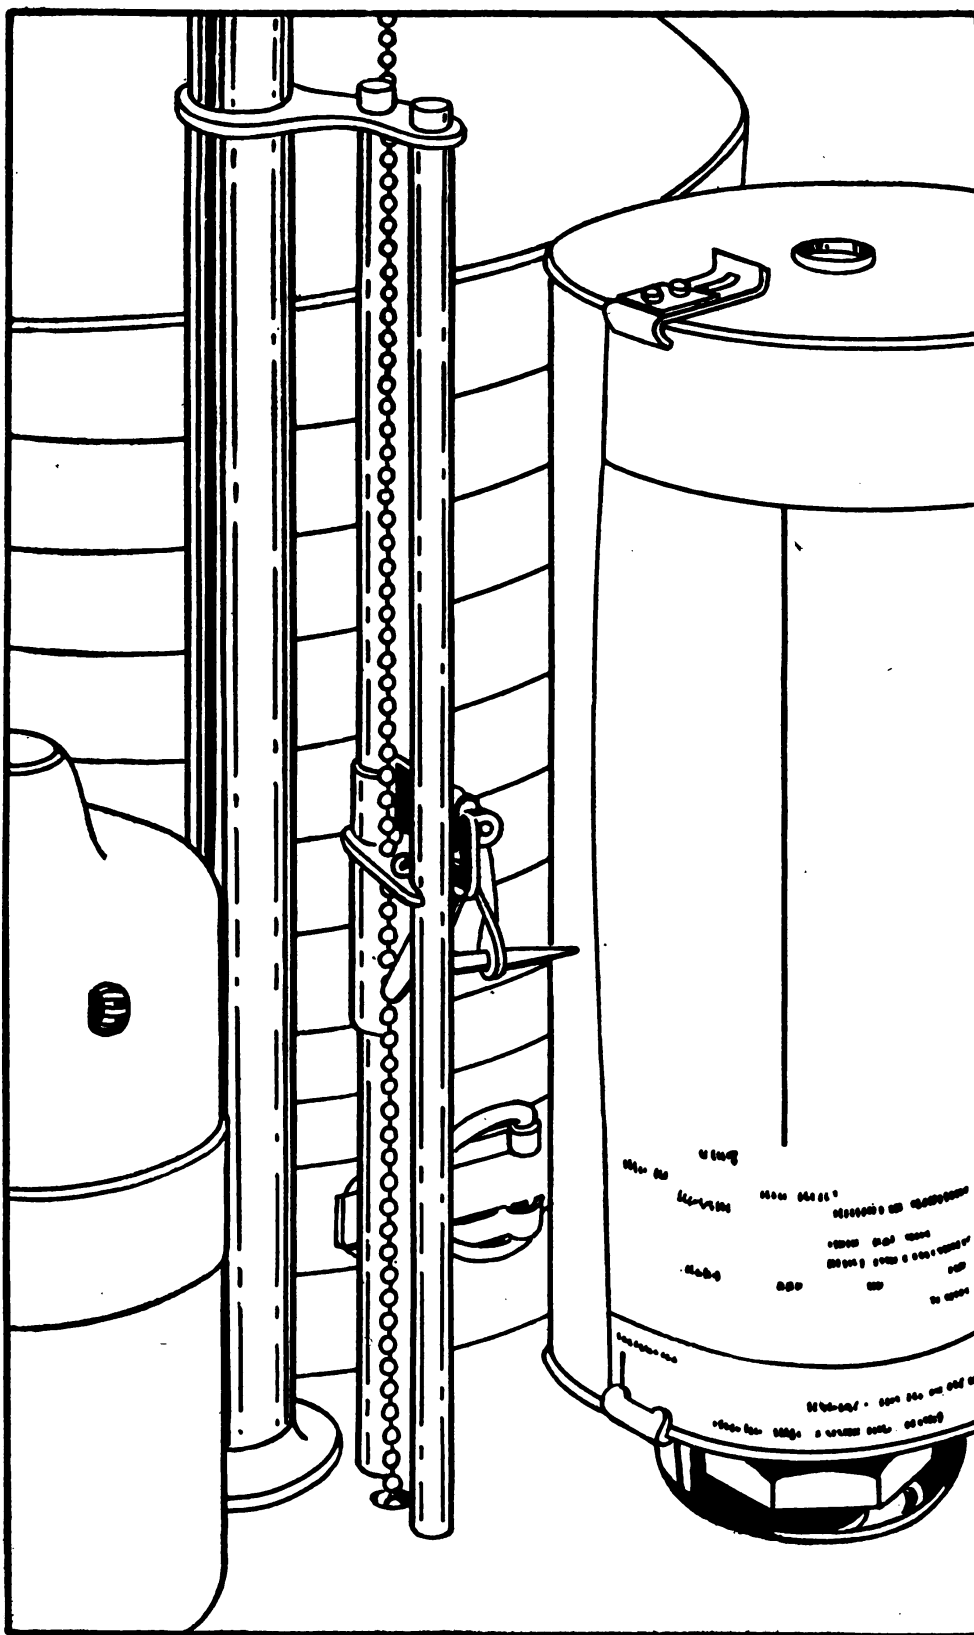

Figure 8. Position of pen for beginning test.
a. Place a fresh chart on the cylinder. (1) Lift chart cylinder from its spindle.
(2) Slide out chart-holding clips.
(3) While holding cylinder *upside down*, wrap a chart around it, right side up.
(4) Slide right edge, marked "this edge underneath," under the clips, bring left edge around and overlapping right edge; adjust chart to fit snugly on the cylinder and close the clips to hold it.
(5) Slide cylinder down on the spindle, pushing it firmly over the ball friction grip until it reaches the bottom of the spindle.
(6) Turn the cylinder counterclockwise until the stylus has just crossed the overlap of the chart. (See fig. 8.)
b. Admit oxygen. (1) Turn breathing valve clockwise.
(2) Press bellows down nearly as far as it will go.
(3) Turn breathing valve counterclockwise.
(4) Open oxygen valve handwheel slowly counterclockwise until oxygen enters the bellows. The writing point will fall as the bellows fills. Admit oxygen *slowly*. Enough oxygen for testing the average patient will raise the upper edge of the bellows to the level of the cylinder top. (See fig. 8.) More oxygen may be admitted for a large person or a suspected exophthalmic case.
(5) Close oxygen cylinder valve by turning handwheel clockwise.
(6) Close oxygen valve.
d. Connect mouthpiece. (1) Turn the breathing valve to the OFF position.